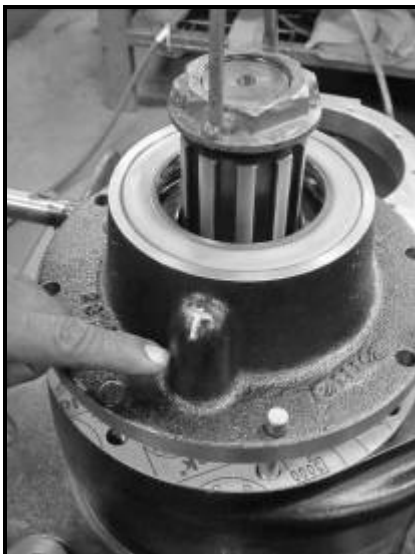

Figure 15
5. Lift off the shaft assembly. Discard the carrier gasket. See **Figure 15**.